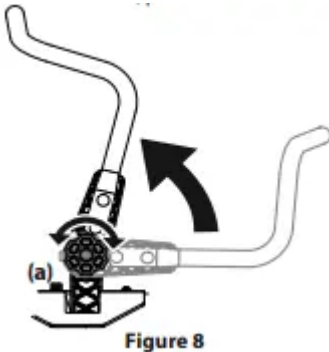

Figure 8
1. Rotate the knob (a) counterclockwise to loosen the knob (a). See Figure 8.
3. Rotate the knob clockwise to secure the lapbar drive control lever into position. See Figure 8.